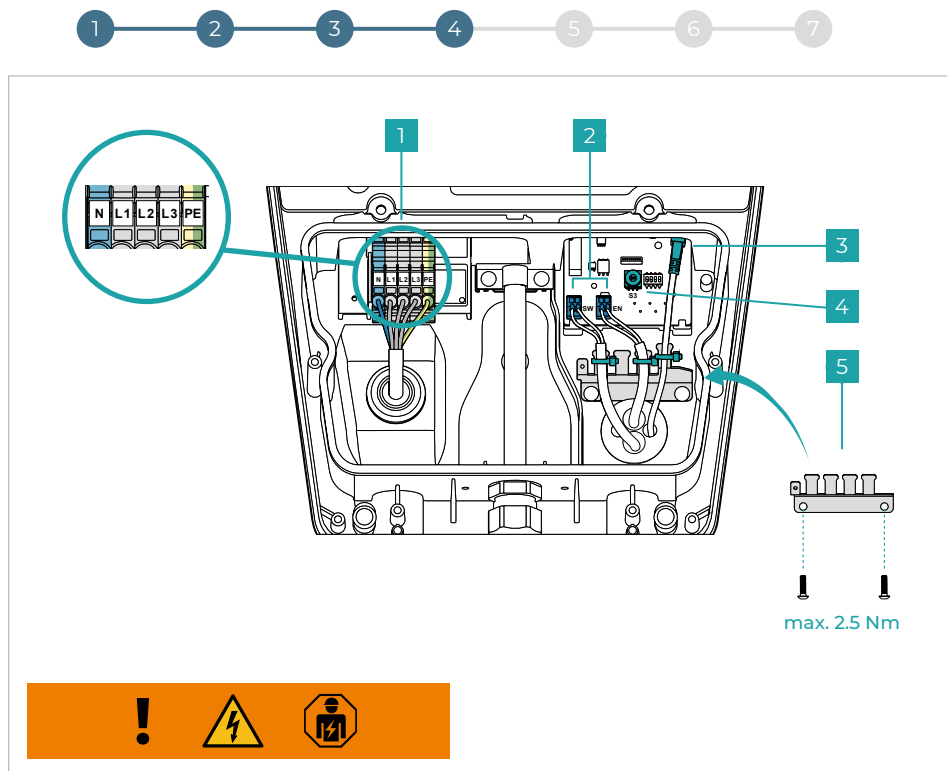
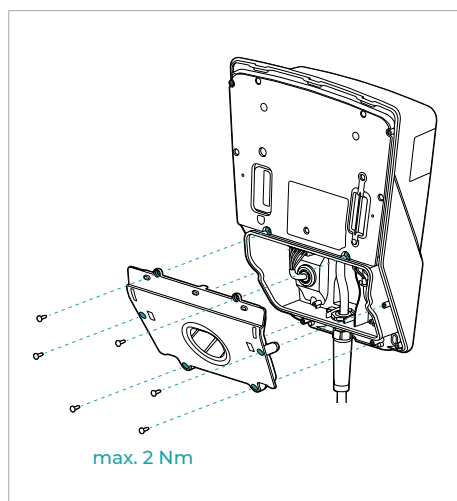

Fig. 6
Fig. 7
An optional external blocking device (e.g. key-operated switch) can be connected to the internal interface (**Fig. 6 - no. 2 - EN interface**).
- Appropriately prepare the mains connecting cable (\varnothing 10 - 20 mm // max. 5*6 mm²) and connect it as shown in **Fig. 6 - no. 1**. The illustration shows the mains connection via three phases. Use N, L1 and PE to connect the charging system to the mains via one phase.
- Configure the maximum charging current of 6 A to 16 A using rotary switch S3, as shown in **Fig. 6 - no. 4**.
- Optional: Prepare the data cables (Digital In (EN) / Digital Out (SW) and LAN) and connect them as shown in **Fig. 6 - no. 2 and no. 3**. Remove the cable bridge before connecting an external blocking device via Digital In.
Fit the strain relief as shown in **Fig. 6 - no. 5** and fix the data cables using cable ties. Mount the lower cover of the charging system as shown in **Fig. 7**.